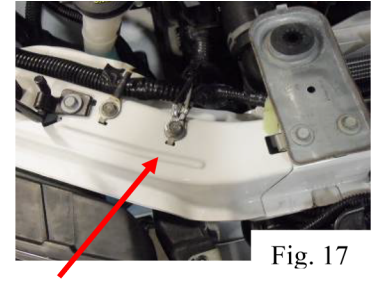

Fig. 17
36) The black and grey ground cables should be connected to the bolt on the radiator support where the two factory ground wires are attached. The weatherpack connectors can be connected to the fans at this point. The longer fan lead should be connected to the driver side fan (Fig. 17).